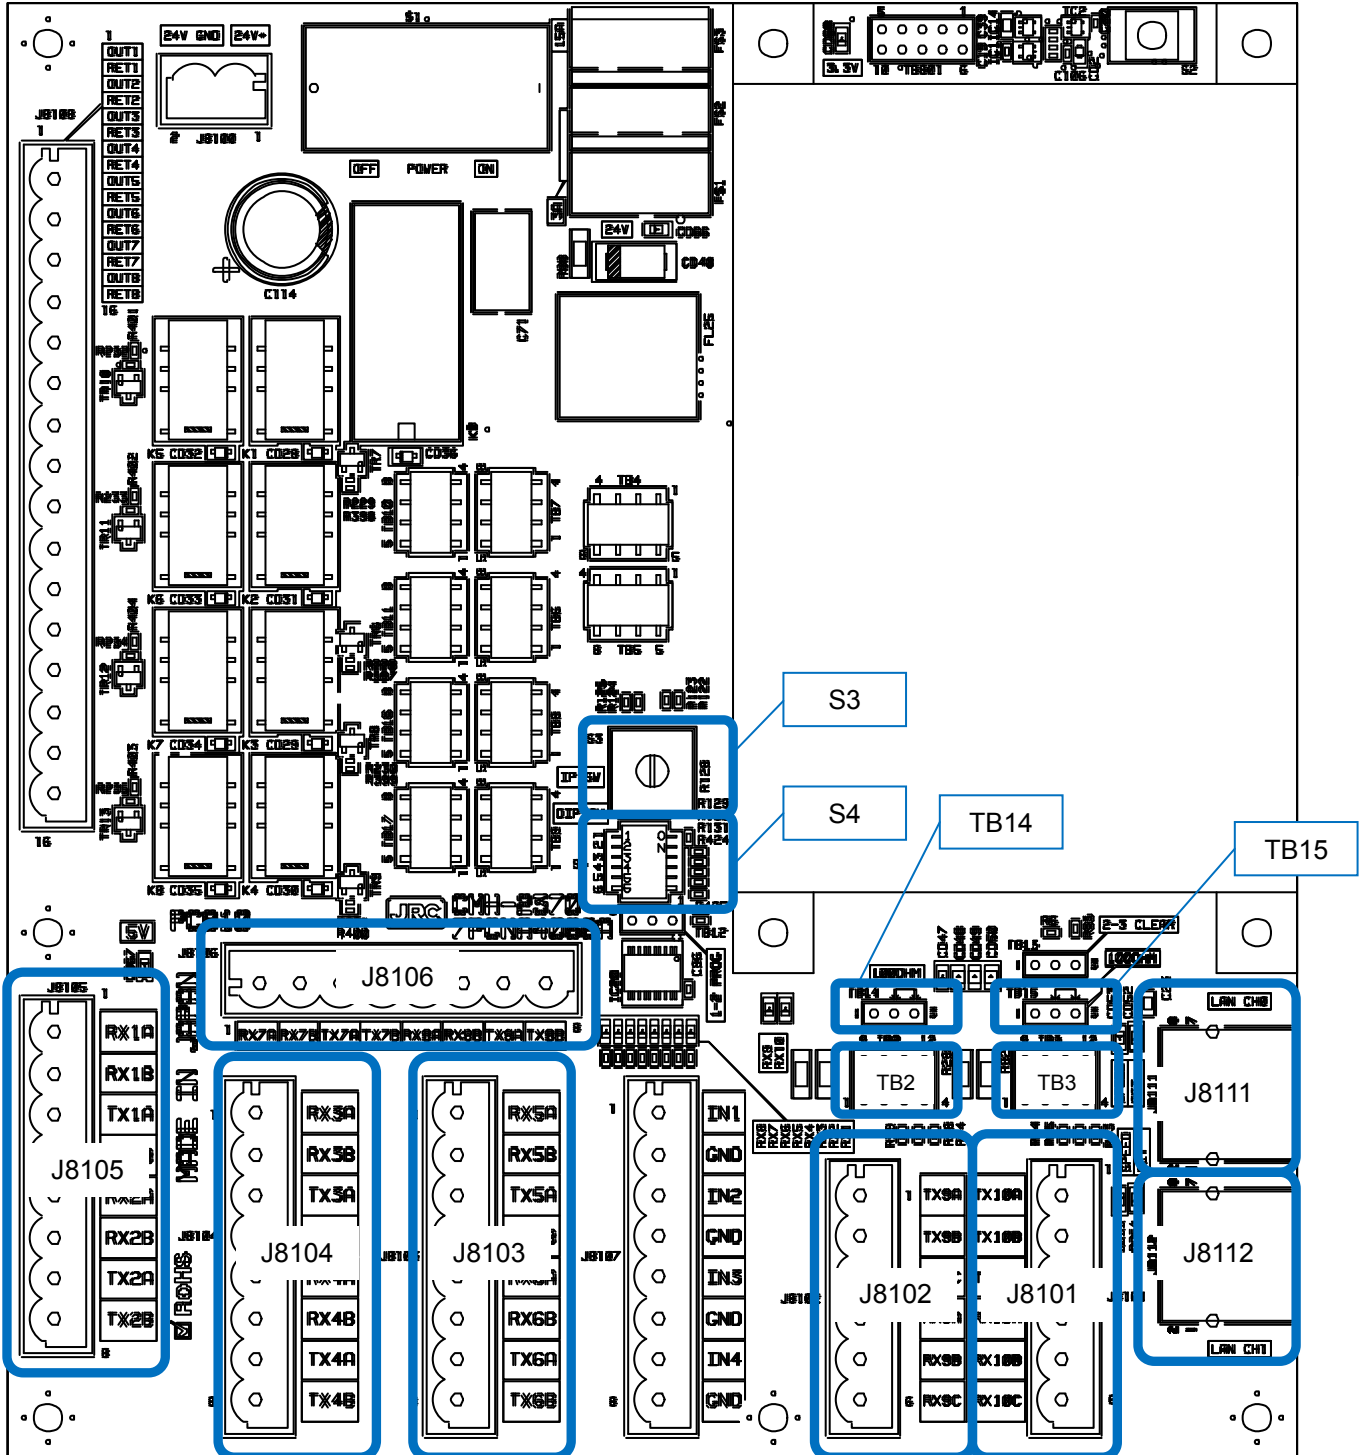

Fig 3-32: Connector location on CMH-2370
- See **Fig 3-32:Connector location on CMH-2370** about location of J8101-J8102 on CMH-2370.
Note : The location of TB2, TB3, TB14, TB15, Refer to **Fig 3-32:Connector location on CMH-2370.**
The location of J8111, J8112 and S4, refer to **Fig 3-32:Connector location on CMH-2370**
The location of S3, refer to **Fig 3-32:Connector location on CMH-2370**.